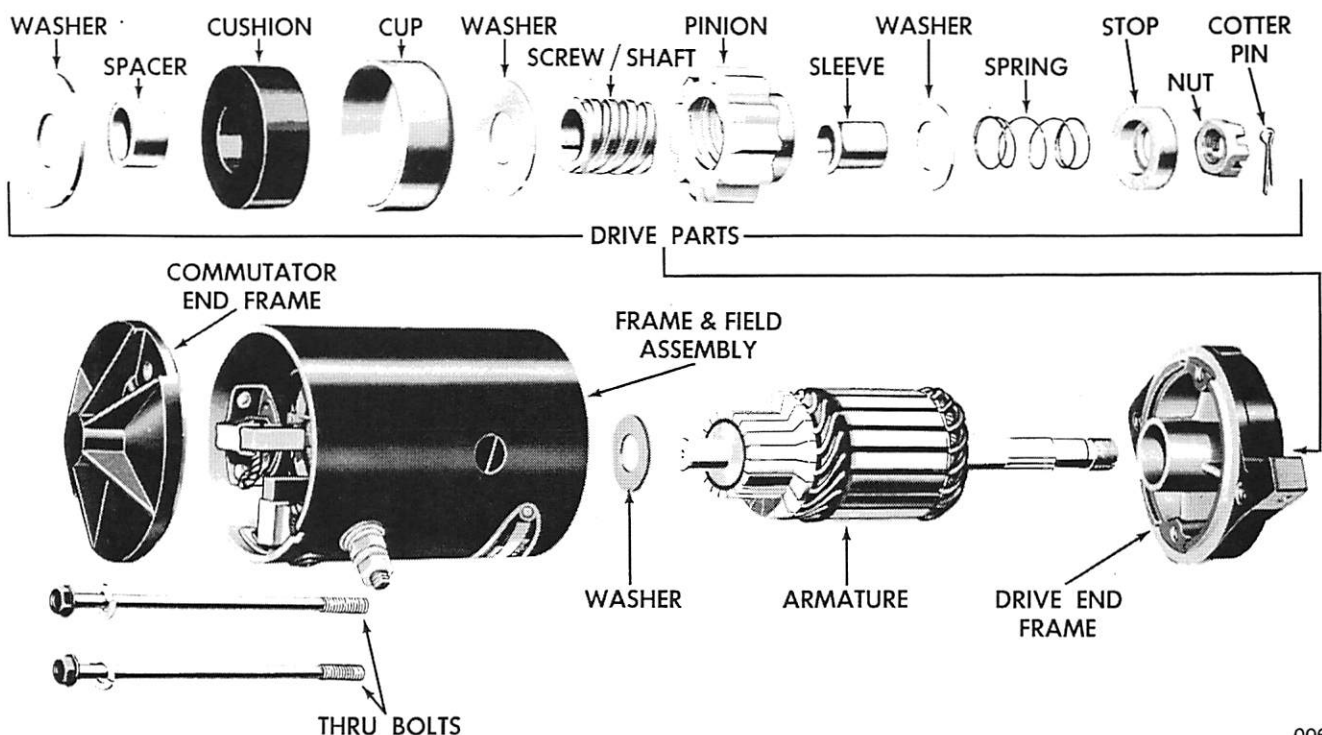

Figure 2. Exploded View of Starter Motor and Mechanism, Delco-Remy
2. Pull entire starter mechanism off in the following sequence: Pinion stop, anti-drift spring, pinion washer, anti-drift spring sleeve, pinion gear, screw shaft, thrust washer, cushion cup, cushion, cushion spacer and thrust washer. (Figure 2)